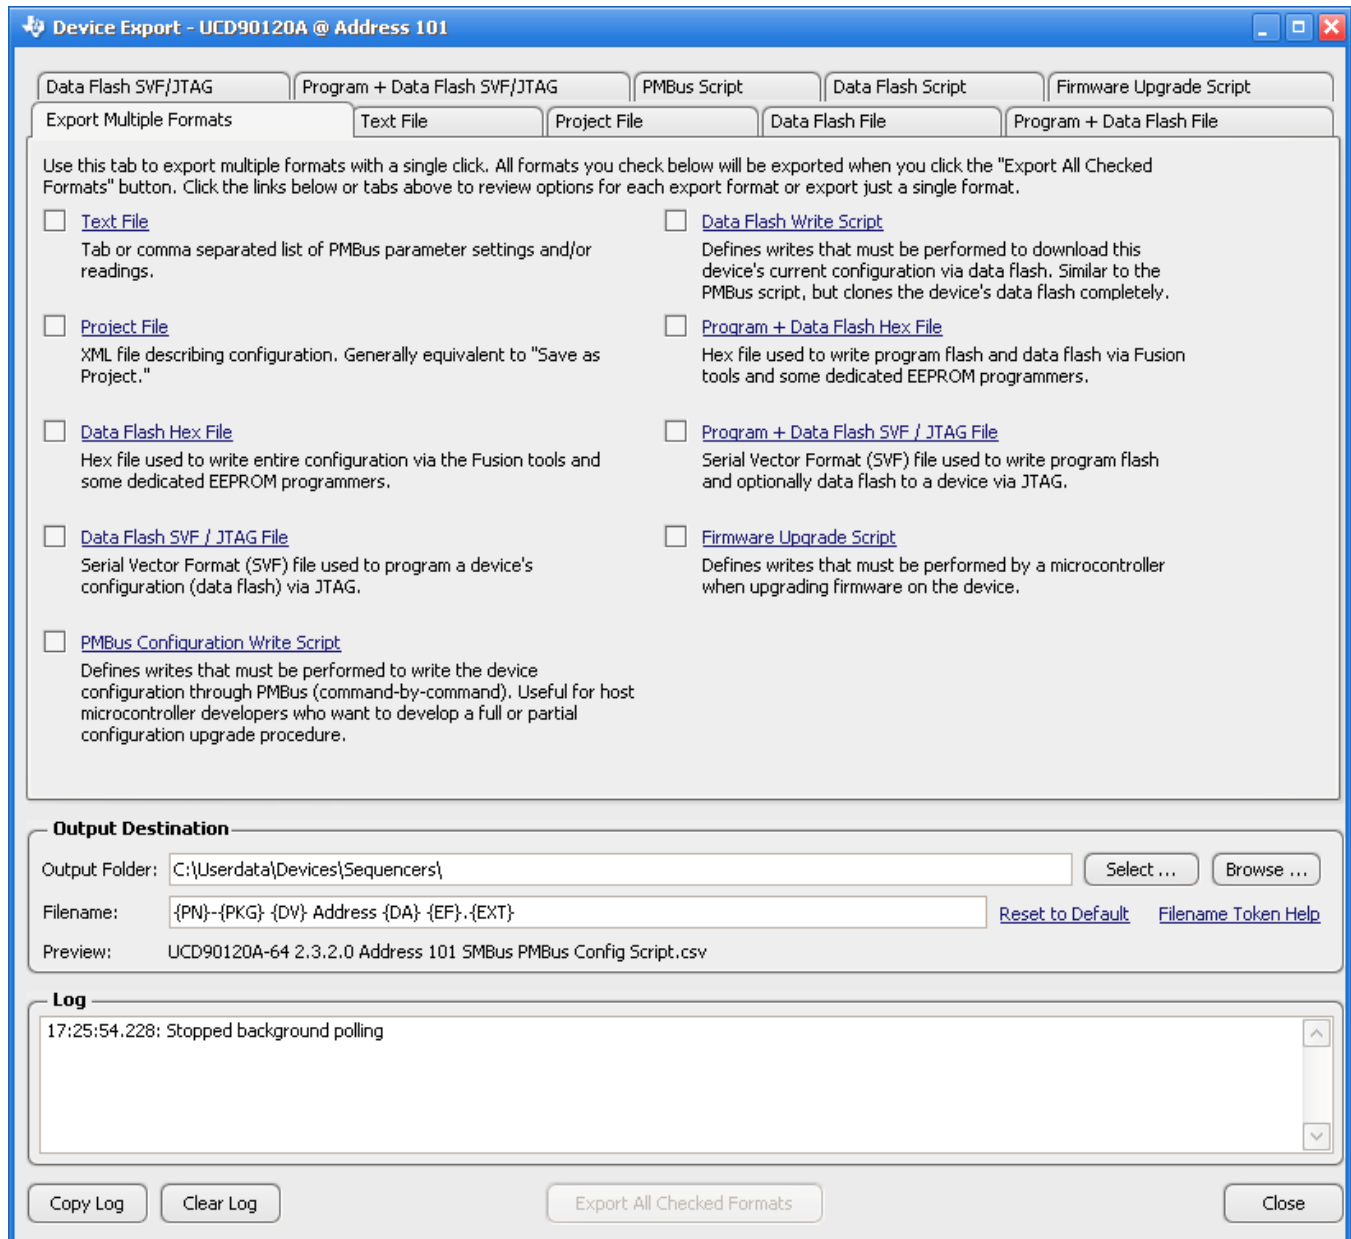

Figure 31. Fusion GUI Device Configuration Export Tool
- Another in-circuit programming option is for the *Fusion GUI* to create a data flash image from the configuration file (Figure 31). The configuration files can be exported in Intel Hex, Data Flash Script, Serial Vector Format (SVF) and S-record. The image file can be downloaded into the device using I2C or JTAG. The *Fusion GUI* tools can be used on-board if the *Fusion GUI* can gain ownership of the target board I2C bus. It is recommended to use Intel Hex file or data flash script file for production programming because the GPIOs are under controlled states.